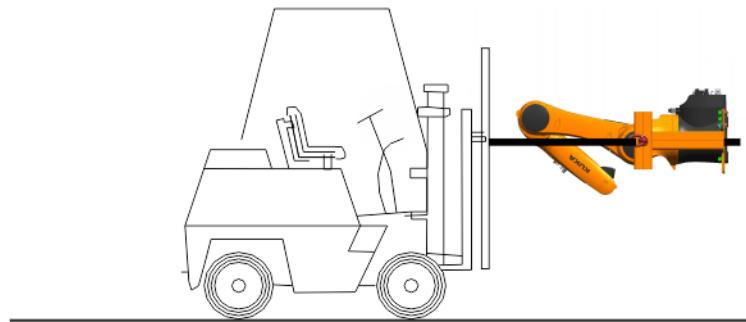

Fig. 8-5: Lifting the Load Lifting Attachment with a fork lift truck
11. Lift the Load Lifting Attachment with a fork lift truck (**>>> Fig. 8-5**).